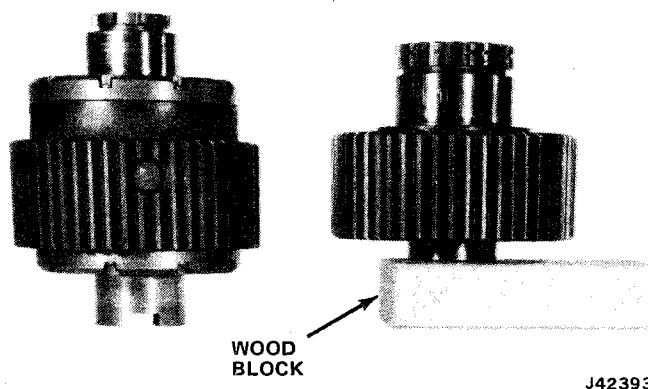

Fig. 2D-45 Differential and Drive Sprocket Positioned for Chain Installation
(1) Position drive sprocket on wood block.
(2) Position differential assembly on workbench approximately 2 inches from drive sprocket (fig. 2D-45).
(3) Install drive chain on drive sprocket and differential assembly (fig. 2D-46).